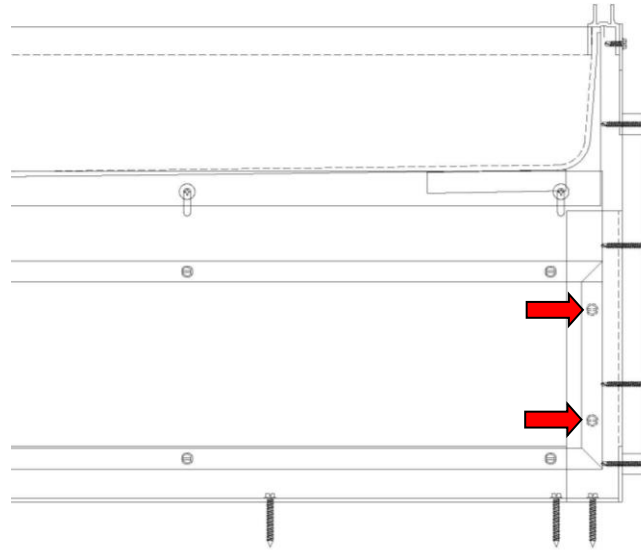

Fig. 22
- Secure 13" Tall Front FRP Trim Panel to the 2" x 2" x 10 1/2" Aluminum Angle attached to the back side of the Front Trim Panels using the provided 10 x 1 1/2" TEK hex washer head sheet metal screw(s). See Fig. 22.